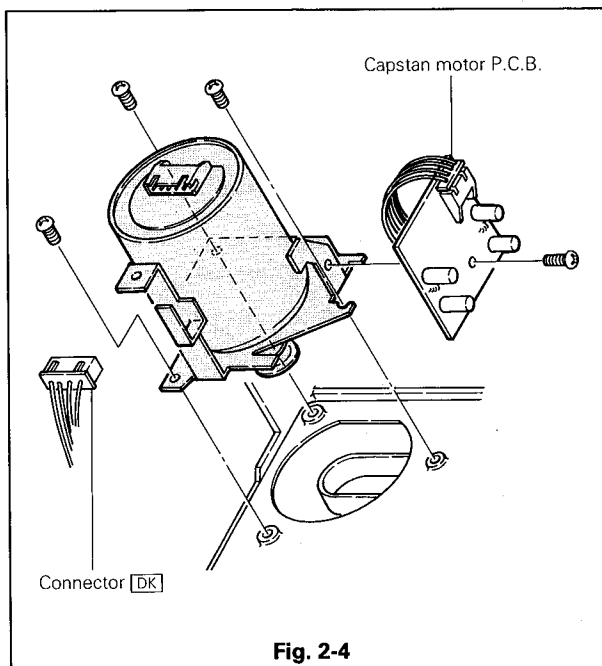

Fig. 2-4
- Remove the three Capstan motor retaining screws as shown in Fig. 2-4 and remove the Capstan motor.
- Fasten the Capstan motor assembly with the three Capstan motor retaining screws as shown in Fig. 2-4.